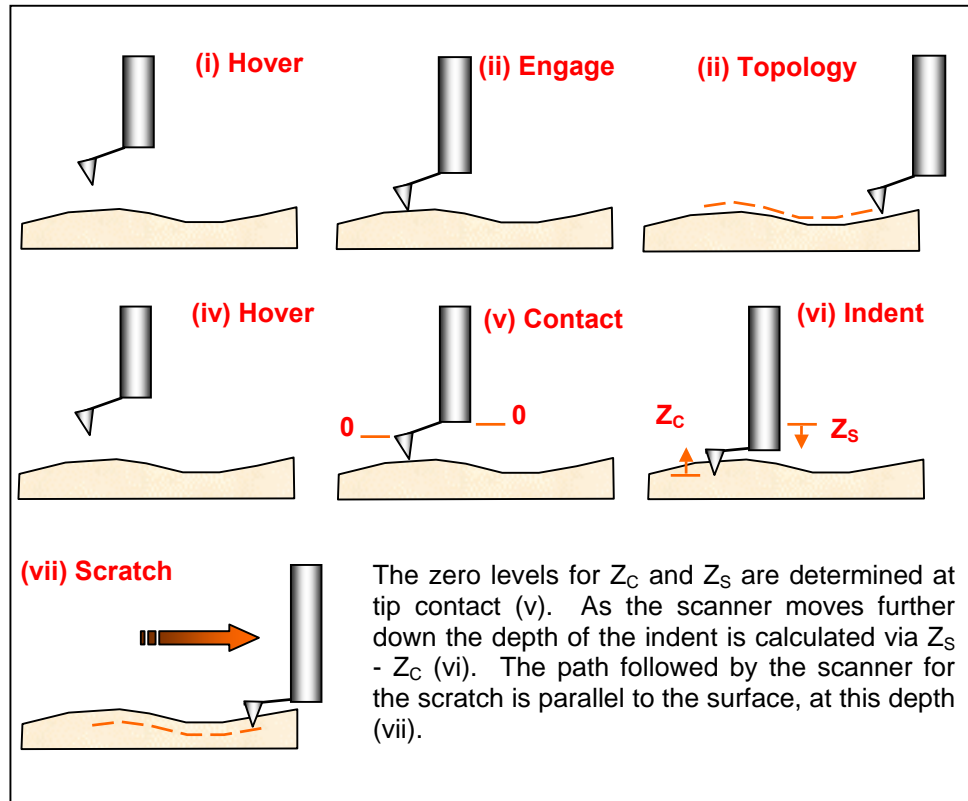

Figure 10-4 The steps in performing a Depth-controlled scratch.
- Selecting *Depth (nm)* produces a surface scratch with the probe following a programmed path along the sample surface. The scratch is performed in a two-pass process. Refer to Figure 10-4 below. In the first pass, starting from the initial *Hover* state, the probe is engaged with the surface in the normal way for surface imaging and then the probe is moved along the scratch path to record the surface profile along that line (*i-iii*). The first pass concludes with the tip being returned to the initial xy position for the scratch and lifted back to the *Hover z* position (*iv*). In the second pass, the tip is loaded onto the surface until the tip of the probe is pushed below the nominal sample surface by the distance specified by the *Initial* parameter (*v-vi*). This initial depth position is determined by calculating the difference between the upward deflection of the cantilever Z_C and the